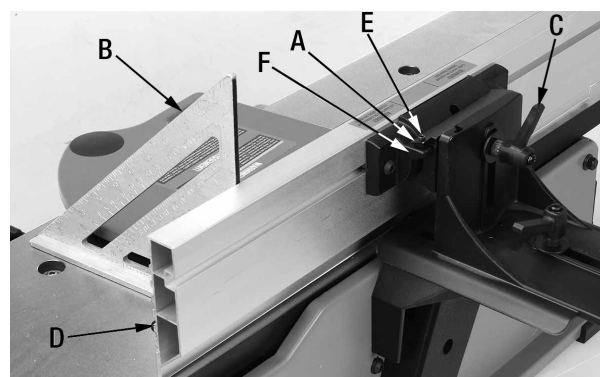

FIGURE 10
- 1) With the fence set against the 90° stop (A) Fig.10, place a square (B) against the table and fence as shown. If the fence is not square to the table, a fine-tune adjustment of the 90° stop will be required.
- 2) Loosen the fence tilt lock handle (C).
- 3) Using a square (B) as a guide, manually set the fence (D) square to the table.
- 4) Hold the fence in place and adjust the 90° stop set screw (E) until it touches the fence bracket (F).